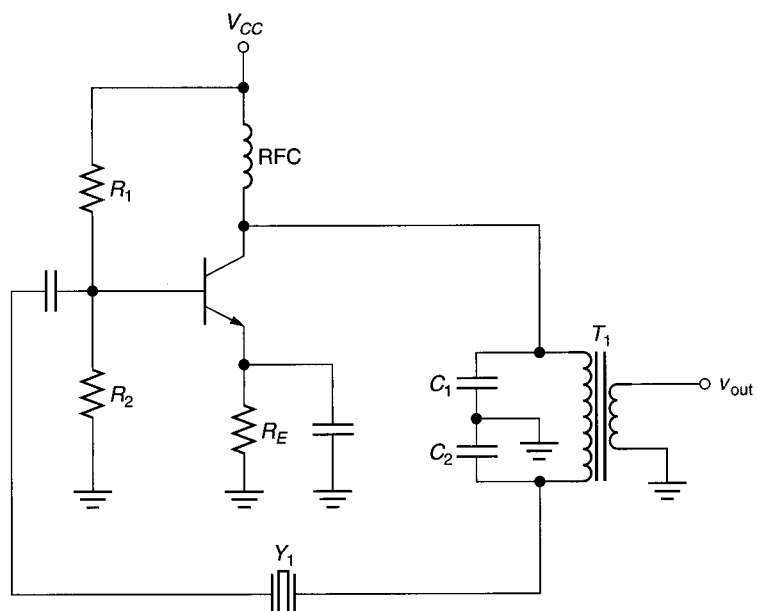

FIGURE 18.22 Crystal-controlled Colpitts oscillator.
The Colpitts oscillator can be modified into a *crystal-controlled oscillator* (CCO), as shown in Figure 18.22. As you can see, a crystal ( $Y_1$ ) has been added in series between the  $LC$  circuit and the amplifier input. The crystal acts as a *series-resonant* circuit (at  $f_s$ ), allowing the feedback voltage to pass to the amplifier input with minimum attenuation. In other words, when operated at  $f_s$ , the impedance of the crystal drops to nearly zero, and the  $LC$  circuit is coupled directly to the amplifier input.
5. What prevents the circuit shown in Figure 18.22 from operating at the parallel-resonant frequency of the crystal ( $f_p$ )?